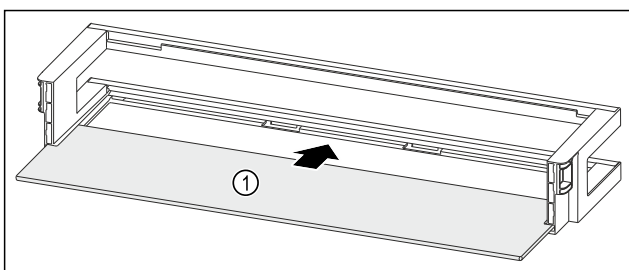

Fig. 250 Door rack with shelf
- ▶ Push the shelf Fig. 250 (1) into the side recesses.